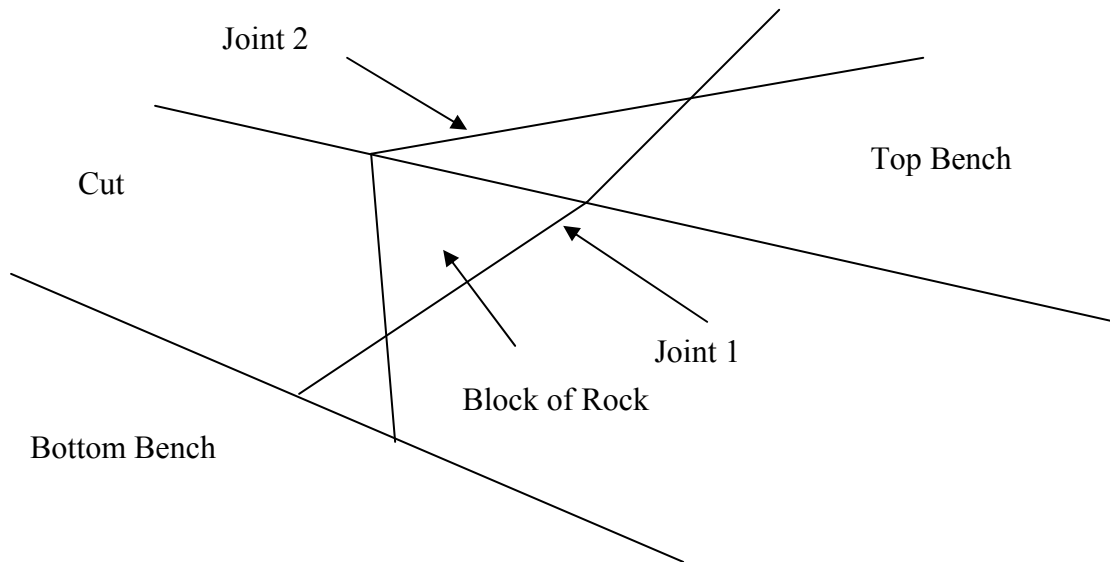

Figure 1
1. A block of rock is bound by Joint 1, Joint 2, top bench, and slope cut. The general arrangement of the block is as shown in Fig. 1. Joint 1 dips 60°/N30W while Joint 2 dips 60°/N40E. Angle of friction for all joints is 35°. The block weighs 300 000 kN. Conduct a stability analysis on the given block of rock by following the steps of question (a) to question (e).